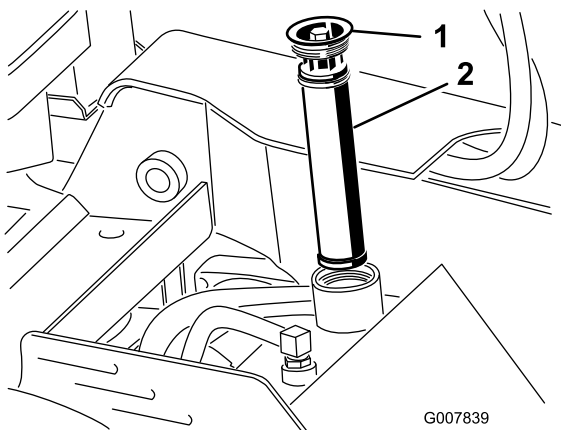

Figure 61
5. Clean the area around the filler neck of the hydraulic tank and remove the cap and filter from the filler neck using a socket (Figure 61).